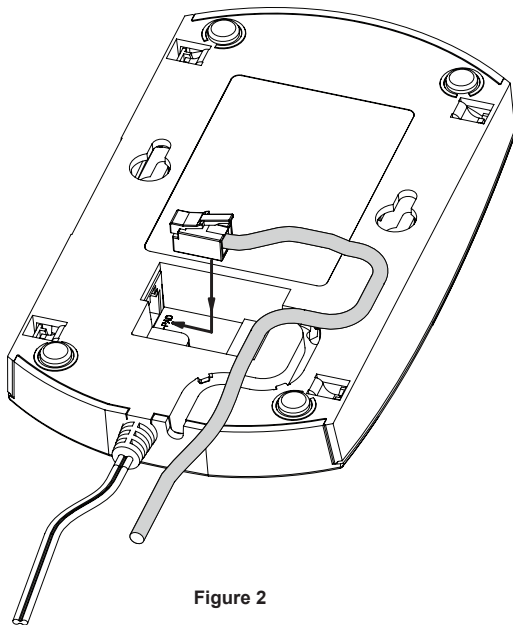
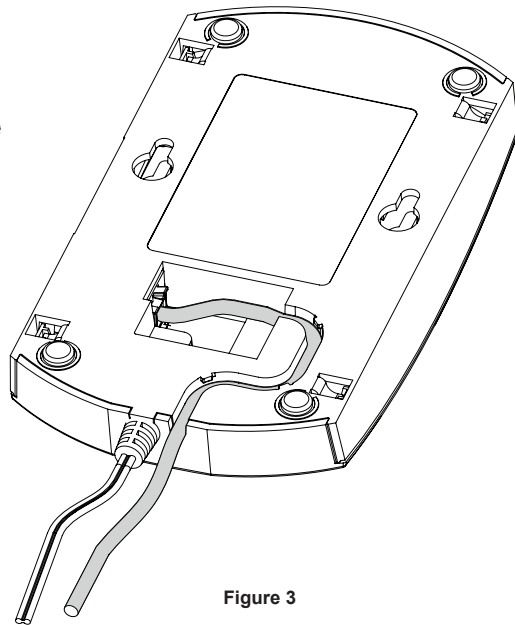

Figure 2
Figure 3
1. If installing an Ei170RF, connect the vibration pad to the V-PAD socket (see *figure 2*). Ensure the vibration pad cable is inserted into the channel to facilitate wall installation (see *figure 3*).